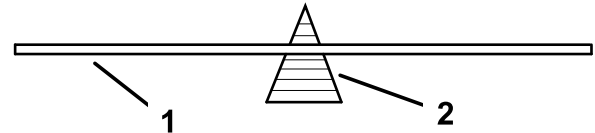

Figure 41
2. For straight blades only, check the balance of the blade by putting it on a blade balancer (Figure 41).